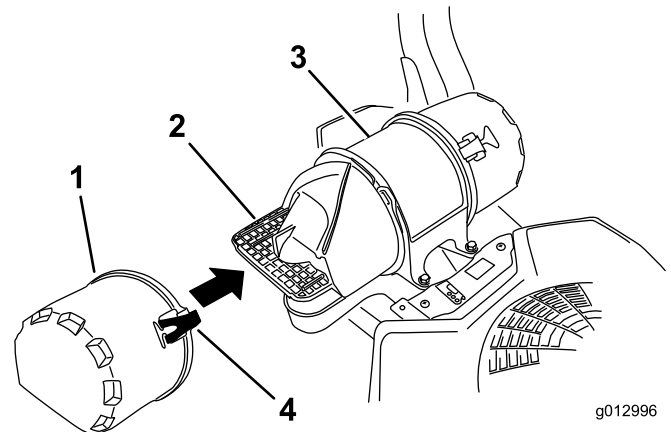

Figure 44
3. Release the latches on the air cleaner and pull the air inlet cover off the air cleaner body (Figure 44).
5. Install the air inlet cover and secure it with the latches (Figure 44).